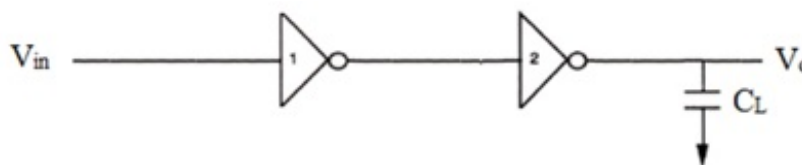

Fig. Q 4B
4B) Two inverters are cascaded to drive a capacitive load $C_L = 15 \square C_g$ as shown in Fig. Q 4B. (3)